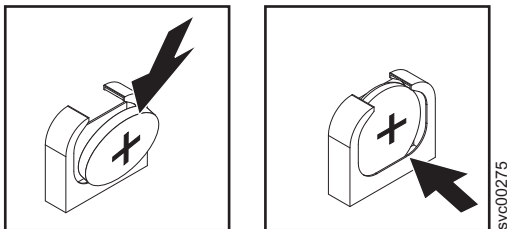

Figure 194. SAN Volume Controller 2145-CG8 or 2145-CF8 CMOS battery holder
- b. Press the battery across into the socket until it clicks into place. Make sure that the battery clip holds the battery securely, as shown in Figure 194.